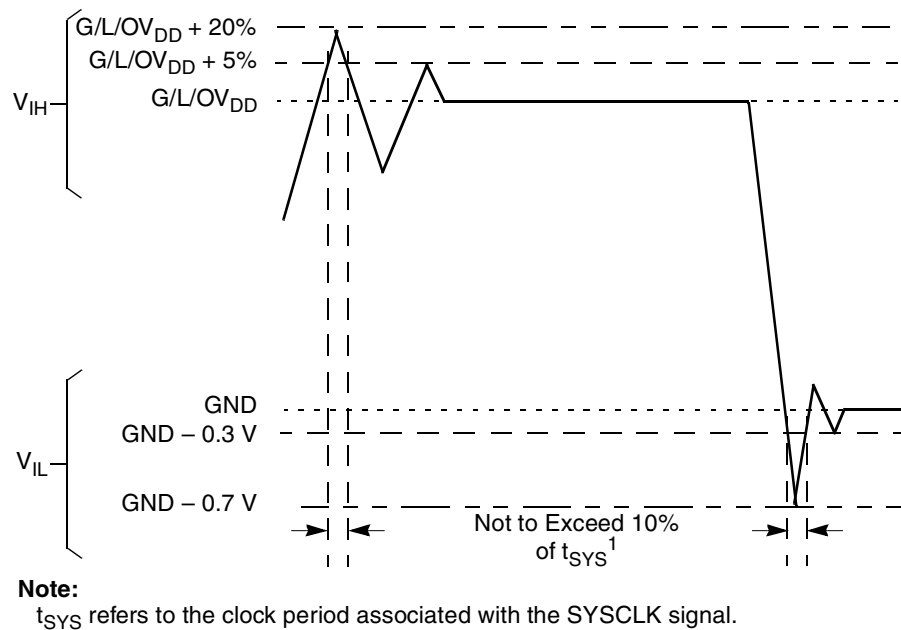

Figure 2. Overshoot/Undershoot Voltage for $GV_{DD}/OV_{DD}/LV_{DD}$
5. (M,L,O) V_{IN} and MV_{REF} may overshoot/undershoot to a voltage and for a maximum duration as shown in Figure 2.
Figure 2 shows the overshoot and undershoot voltages at the interfaces of the MPC8560.